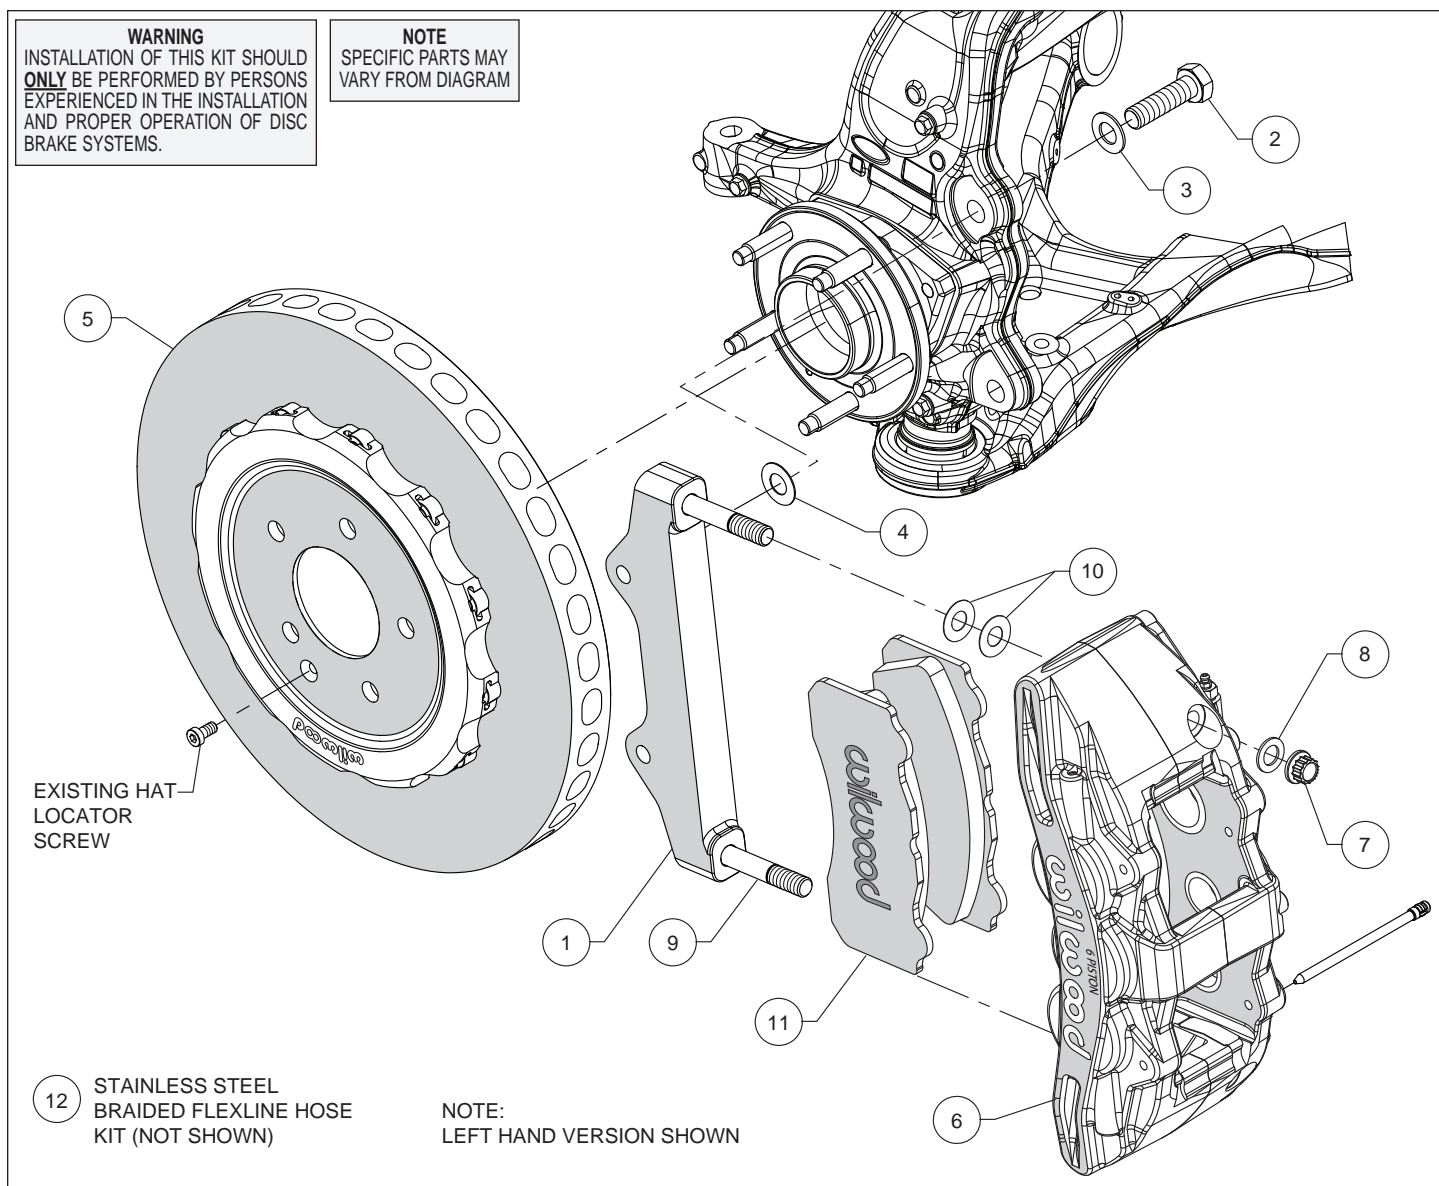

Figure 1. Typical Installation Configuration
Assembly Instructions (numbers in parenthesis refer to the parts list and Figure 1 on the preceding pages):
- The caliper mount bracket (1) should initially be installed with clean, dry threads on the mounting bolts. Orient the bracket, as shown in Figure 1 and Photo 1, and install using bolts (2) and washers (3). Initially place one .029" thick shim (4) on each bolt between the bracket and upright, Figure 1. Temporarily tighten the mounting bolts. **NOTE:** The bracket must fit squarely against the mount bosses on the upright. Inspect for interference from casting irregularities, machining ridges, burrs, etc. Later, after the caliper alignment has
- Slide the hat/rotor assembly (5) onto the axle hub. **NOTE:** The hat must fit flush against the axle hub flange or excessive rotor run out may result. Install the hat locator screw (OEM), as shown in Figure 1 and Photo 2, to keep the hat/rotor assembly in place while continuing with the installation.
- NOTE:** This kit contains distinct right and left hand calipers that must be mounted in a specific direction, as described below. Lubricate the caliper mounting studs (9) with lightweight oil. Initially place two .015" thick shims (10) on each stud between the caliper and the bracket, as shown in Figure 1 and Photo 3. Mount the caliper (6) onto the bracket (1) using lock nuts (7) and washers (8), Figure 1. Temporarily tighten the lock nuts. Ensure that the caliper is mounted so the largest pistons are at the rotor exit end of the caliper, in relation to the direction of the rotor. View the rotor through the top opening of the caliper. The rotor should be centered in the caliper, Photo 4. If not, adjust by adding or subtracting shims (4) between the bracket and the upright. Always use the same amount of shims on each of the two mounting bolts. Once the caliper alignment is correct, remove the bracket mounting bolts (2) one at a time, apply red *Loctite*® 271 to the threads, and torque to 77 ft-lbs.
- Remove the two pad retaining pins from the caliper (6) by pushing out the pins from the tapered end using a blunt instrument. Insert the brake pads (11) into the caliper from the bottom, Figure 1 and Photo 5. With the friction material facing the rotor, secure the brake pads in place with the pad retaining pins, Photo 6. Reinstall the caliper onto the caliper mounting bracket and temporarily tighten the lock nuts (7). Check that the top of the brake pad is flush with the outside diameter of the rotor, Photo 7. If not, adjust by adding or subtracting shims (10) between the caliper and the bracket. After the caliper pad height is set, torque the caliper lock nuts (7) to 65 ft-lb.